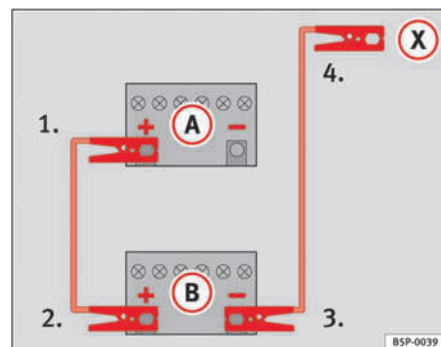

Fig. 158 How to connect the jump leads
In ⇒ fig. 158, the flat battery is **A** and the charged battery **B**.
- 1. Connect one end of the red jump lead to the positive ⇒ fig. 158 **+** terminal of the vehicle with the flat battery ⇒ ⚠.